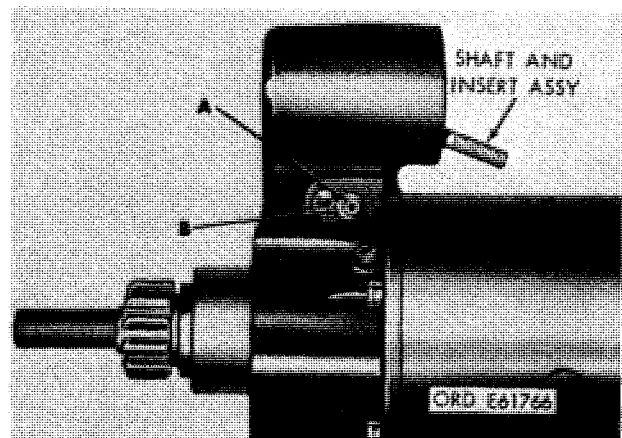

Figure 3-8. Removing or installing lever shaft retaining screw and washer.
a. Remove hex-socket head screw (A, fig. 3-8) and flat washer (B).